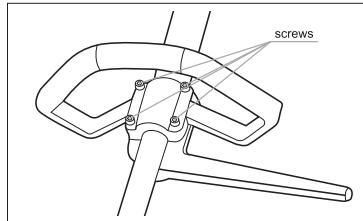

fig. 2
- Place the device on a flat, hard and clean surface. Unscrew the mounting collar using a wrench. Place the handle over the bar and secure it with the mounting clamp (fig. 2). Tighten the screws.